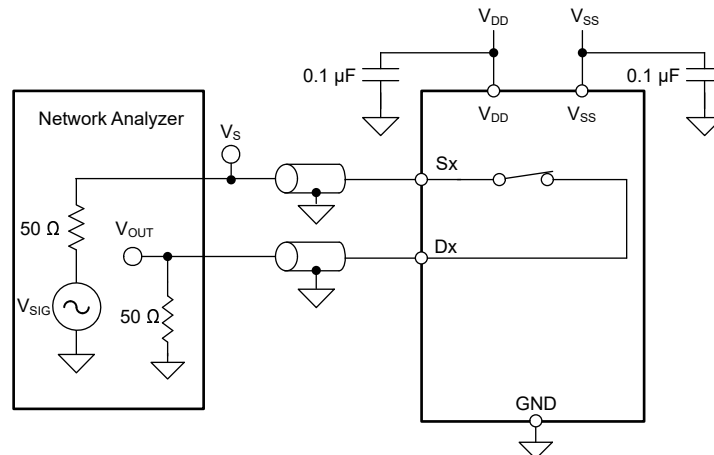

**Figure 6-9. Crosstalk Measurement Setup**
Crosstalk is defined as the ratio of the signal at the drain pin (D) of a different channel, when a signal is applied at the source pin (Sx) of an on-channel. Figure 6-9 shows the setup used to measure, and Equation 3 shows the equation used to calculate crosstalk.